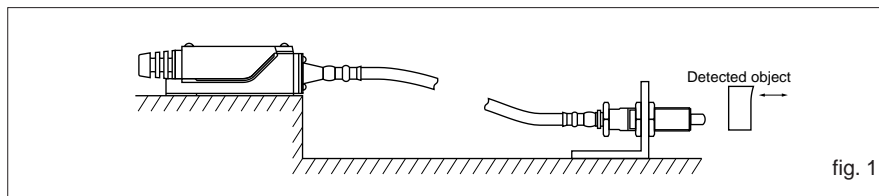

fig. 1
5. Remote wire control types (fig. 1): Because the main unit is not of water resistant or immersion-proof construction, their use in water or oil should be avoided. Also, locations where water or oil can normally impinge upon the switch or where there is an excessive accumulation of dust should be avoided. The main unit should be installed above the detection part in such case. (An actuator is immersion-protected construction.)